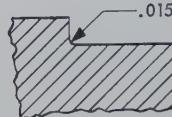

FIG. 15
Typical examples and accompanying descriptions for definition and interpretation of terms are illustrated in Figs. 1 through 14. Figs. 15 through 24 present typical shop-run tolerances.
**Corners — Fillets:** When a sharp internal corner is shown on a drawing, but is not specified, the fillet (radius) shall be from .015 to .030R. See Fig. 15. (This is an excellent way to avoid sharp corners. It is extremely important that fillets be as large as possible on parts subject to high stresses. Localized stress intensification is caused